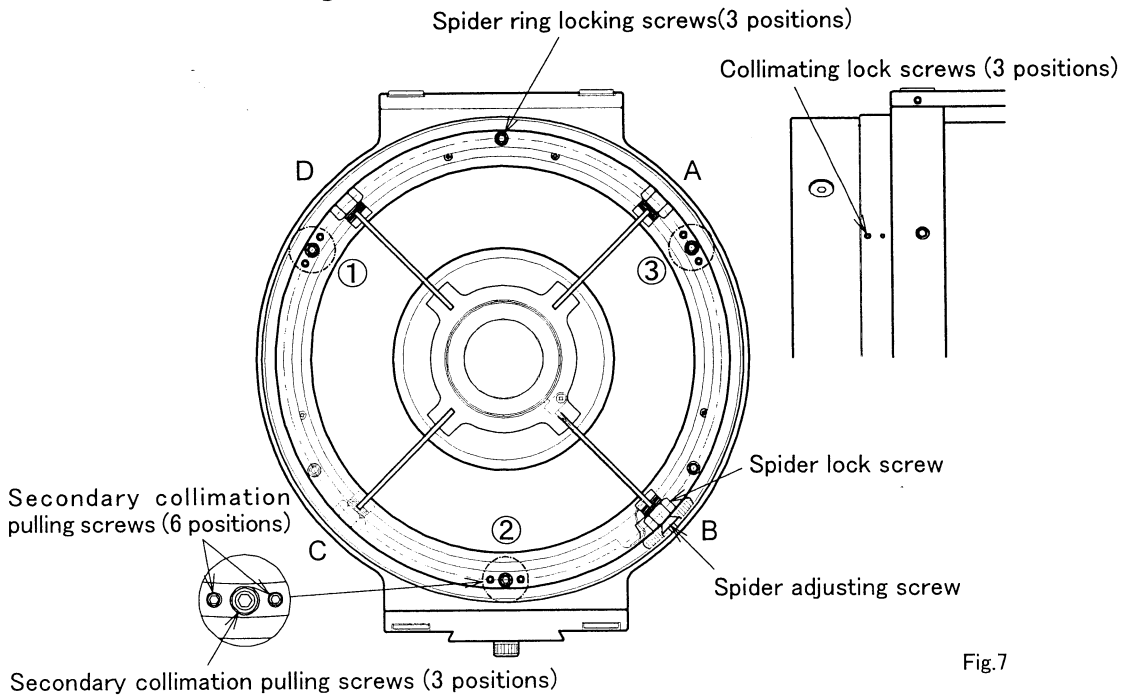
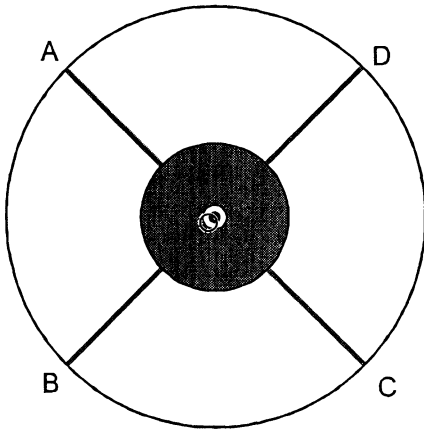

Fig.7
Fig.8
4. Loosen, with the 2mm Allen wrench provided, the collimating lock screws located at 3 places on the side of the top ring. Loosen 3 spider lock screws (M5 with hexagonal hole) located on the opposite side of the collimation lock screws, until it will not be tighten when collimation is performed. Refer to the fig.7.
5. Check the movement of the secondary mark. The Fig. 8 shows what is seen when looking into the collimating scope and the Fig. 7 shows what is seen from the top of the tube. In the Fig. 8, the secondary mark is seen shifted toward the B wing of the spider. Adjusting the shifting in the Fig. 8 is as follows.
6. Adjusting screws for the secondary optical system: The pulling screws with hexagon hole provided at the center and the pushing screws positioned on both side of the pulling screws. Refer to the Fig. 7.